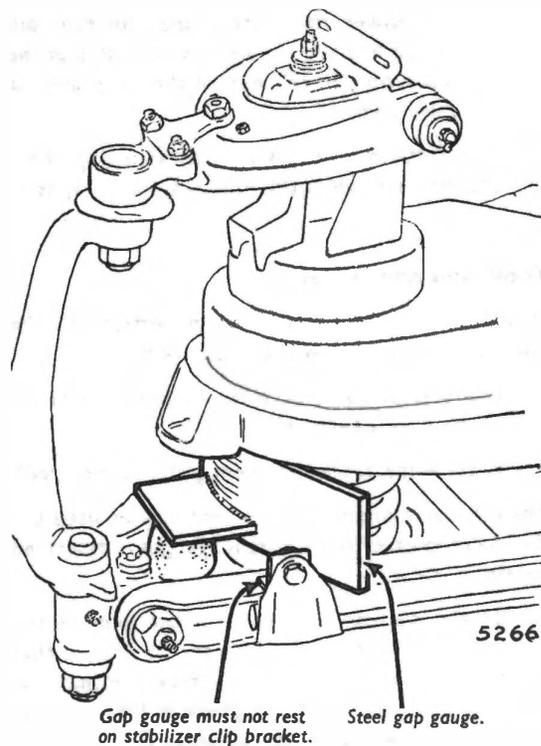
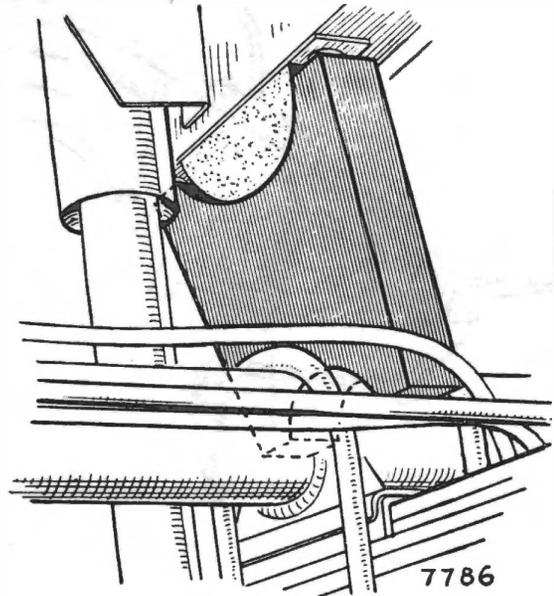

Fig. 2. Front suspension loaded down onto steel gap gauge
Fig. 3. *Rear gap gauge in position, ensure that the rear bottom corner is clear of the hydraulic pressure pipes*
5. The car is loaded on to four gap gauges by placing weights at the front of the car. The amount required is approximately 300 lb. (136 kg.) evenly distributed on a platform, comprising of a wooden plank supported by two suitably cranked steel bars $\frac{7}{8}$ in. (22 mm.) square inserted into the front jacking sockets. At the front, steel gap gauges are used, see Fig. 2 or 28. At the rear, hardwood gap gauges are used; these are shaped to clear the hydraulic pressure pipes, the bump rubbers and fit round the axle casing, see Fig. 3. Normally the rear end of the car is lifted by hand to enable the rear